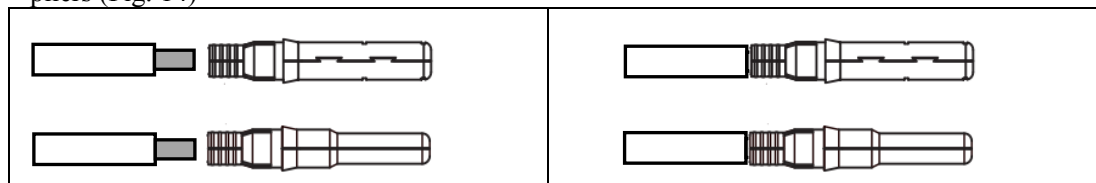

Fig. 14
1. Strip the insulating layer of the DC cable by about 8mm to expose the copper conductor. Insert the copper conductor into the metal tube core of the connector and press it down with crimping pliers (Fig. 14)